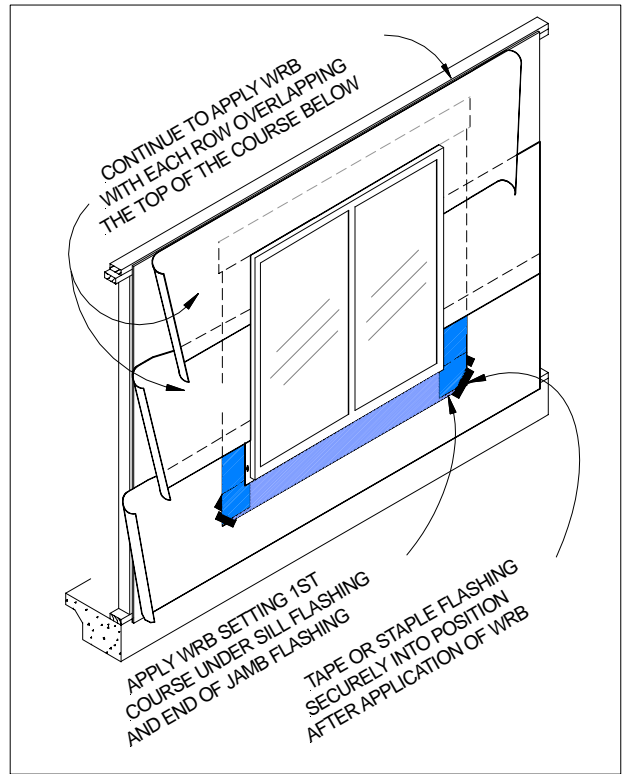

Figure B.10.1
10. The General Contractor is responsible to ensure that the weather resistant barrier or house-wrap is effectively integrated around the window frame in a weatherboard fashion. **See Figure B.10.1**